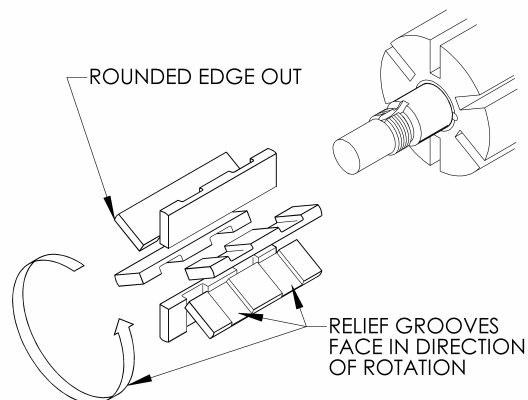

Figure 4
3. Install a new vane, ensuring that the rounded edge is UP, and the relief grooves are facing towards the direction of rotation. See Figure 4.
8. Inspect the vanes (14) and push rods (77) for wear and damage, and replace as follows:
- a. Partially install the non-driven end of the rotor and shaft (13) into the open side of the pump cylinder.
- b. Leave part of the rotor outside of the cylinder so that the bottom vanes can be installed and held in place as the push rods are installed in the push rod holes of the rotor. Insert the new vanes into the rotor slots with the rounded edges outward, and the vane relief grooves facing TOWARDS the direction of rotation. See Figure 4.